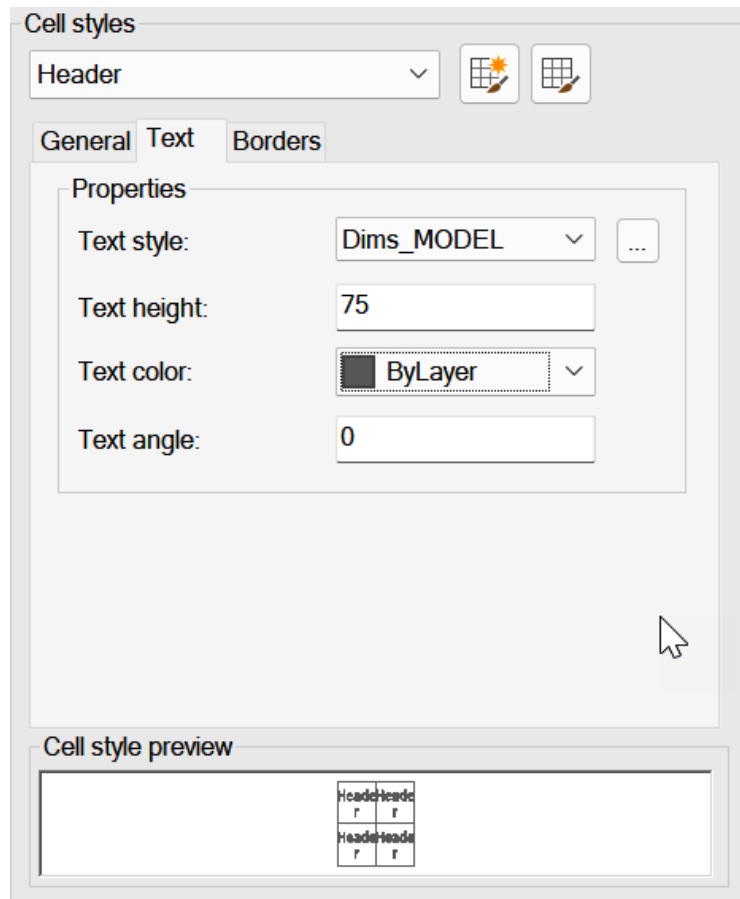

Figure 7.39: The Header cell style Text properties
16. In the **Text** tab, set **Properties** as shown in *Figure 7.39*.